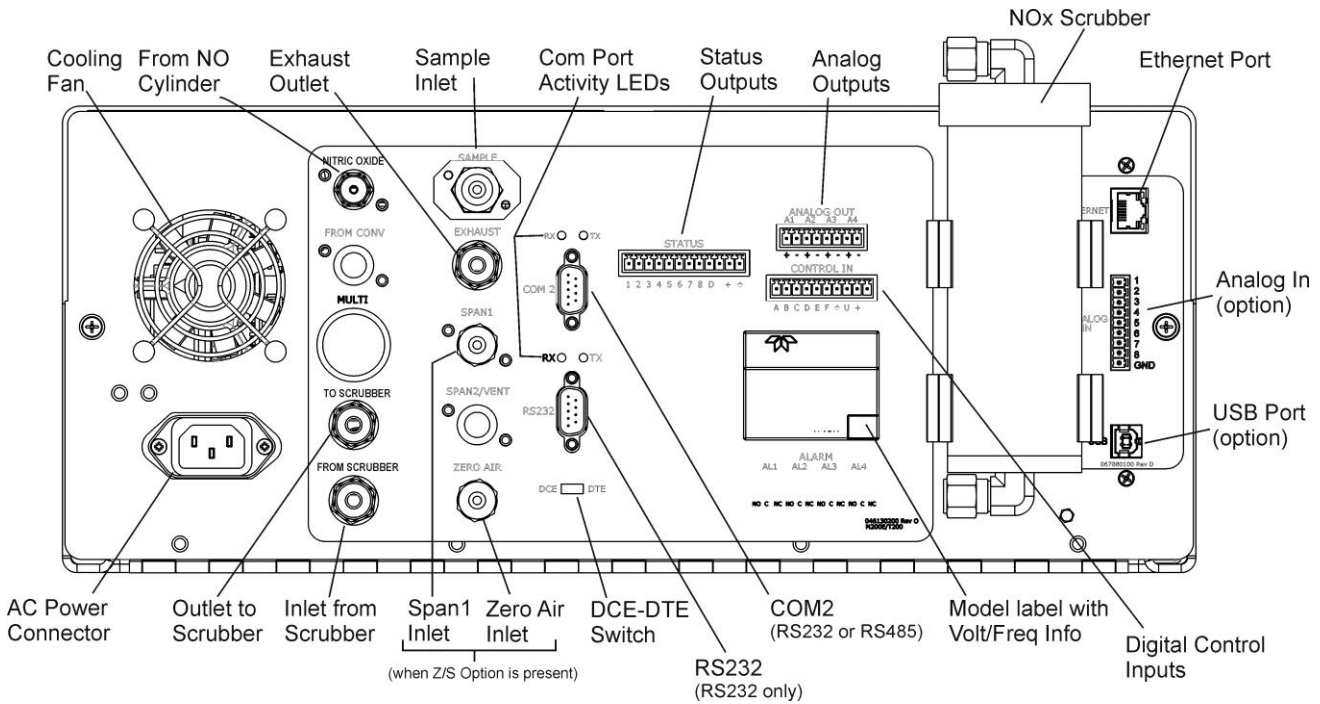

Figure 3-2. Rear Panel
Figure 3-2 illustrates the layout of the Model T265 analyzer's rear panel.
1. Refer to Figure 3-2 for the rear panel electrical and pneumatic connectors.
7. Using 1/8” stainless steel tubing, attach a cylinder with 10,000 ppm ±10% of nitric oxide (NO) in nitrogen (N₂), with an appropriate pressure regulator, to the 1/8” stainless steel port (labeled NITRIC OXIDE) on the rear panel as shown in Figure 3-2. Note: The NO cylinder’s pressure regulator should be set to deliver gas at 20 PSIG ± 5 PSIG.